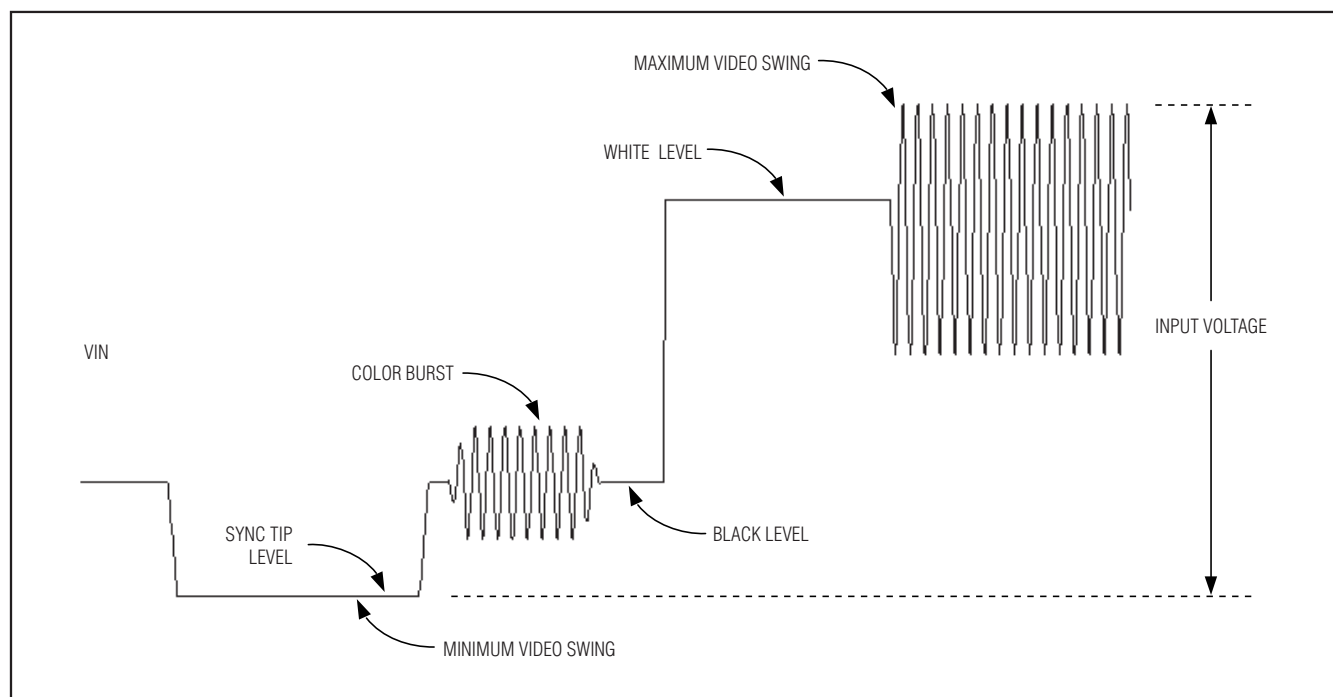

Figure 3. Definition of Terms
**Note 2:** The input-voltage operating range is the input range over which the output signal parameters are guaranteed (Figure 3).
**Note 3:** The input-voltage sync detection range is the input composite video range over which an input sync signal is properly detected and the OSD signal appears at VOUT. However, the output voltage specifications are not guaranteed for input signals exceeding the maximum specified in the input operating voltage range (Figure 3).